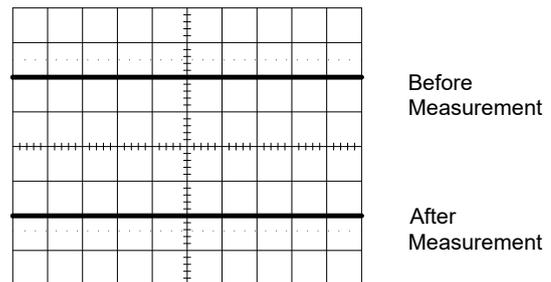

Fig. 5-4
(1) Set the knobs on the panel to get a sweep baseline.
(2) Set the coupling mode of the selected channel to be GND.
(3) Adjust the vertical position to keep the sweep baseline to be on a certain horizontal coordinate (shown as Fig. 5-4 Before Measurement) and define the point as the voltage zero value.
(4) Feed in the measured voltage to the plug of the selected channel.
(5) Set the input coupling to be DC. Adjust the voltage attenuator to keep the sweep baseline to be on a proper position on the screen. Rotate the variable clockwise to the calibrated position first.
(6) Read out the deflected division number in vertical direction, shown in Fig. 5-4, after measurement.
(7) Work out DC voltage using the following formula:
For example, in Fig. 5-4, the sweep baseline is 4 divisions above the original baseline,